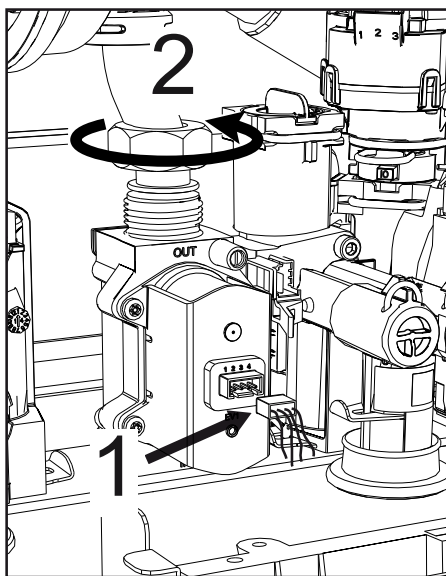

fig. 44
- Disconnect the electrical connectors "1" (fig. 44).
- Disconnect the gas supply pipe "2" (fig. 44)